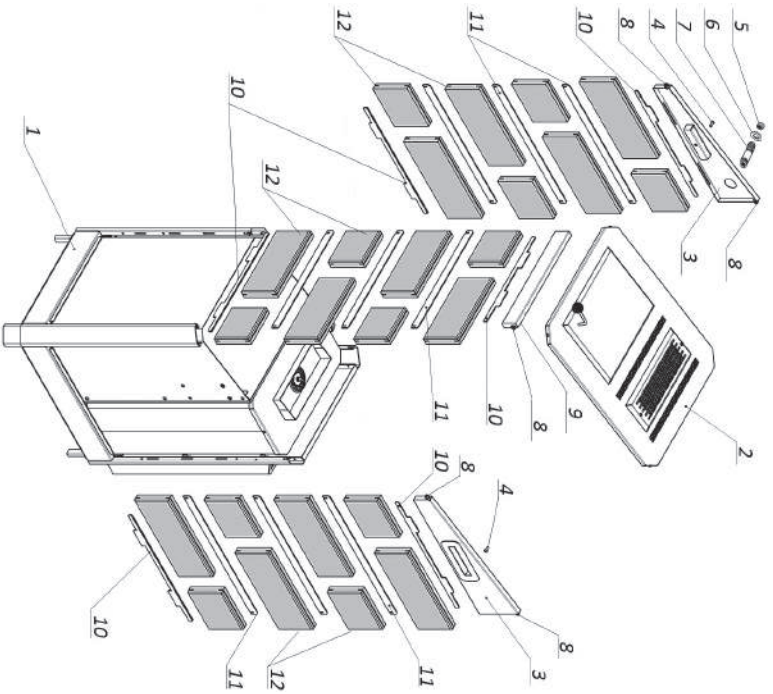
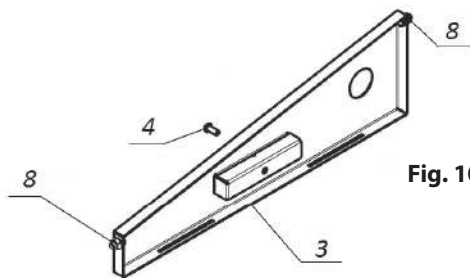

Fig. 9 Diagram of the stone facing assembly of the steam thermal electric heater PARZHAR-6.25 kW.
Fig. 10 Side panel of the stone-faced EH case
A diagram of the stone facing assembly is given in Fig. 9.
2.1.3.2 Unpack and sort stone tiles by their lengths (no. 12, Fig. 9) and metal inserts (no. 10 and 11, Fig. 9) for the front and side EH panels.
2.1.3.3 Remove the top cover (no. 2, Fig. 9). For this, loose 4 self-tapping screws on corner cover ends. Unscrew the plug (no. 5, Fig. 9) and the decorative nut (no. 6, Fig. 9), then unscrew the steam bleeding nipple (no. 7, Fig. 9). Remove screws from side handles (no. 4, Fig. 9, Fig. 10). Loose fastening nuts (no. 8, Fig. 9, Fig. 10) of the front (no. 9, Fig. 9) and side (no. 3 Fig. 9, Fig. 10) panels inside the corners of the EH case. Pull the side and front panels upwards to remove them.
2.1.3.4 Install metal inserts with protrusions (no. 10, Fig. 9) on the foundation plate (no. 1, Fig. 9) and align protruding parts of the inserts with plate cutouts. Install first-row stone tiles (no. 12, Fig. 9) on all three sides by putting on tile cutouts on the inserts (no. 10, Fig. 9). Put metal inserts (no. 11, Fig. 9) into the cutouts of the installed tiles and install the second row of the tiles. The following rows of the stone tiles are installed in a similar manner. After the installation of the last (top) row of the tiles, metal inserts with protrusions (no. 10, Fig. 9) are put into their cutouts. Layouts of the installation of decorative stone tiles are shown in Fig. 11.
2.1.3.5 Install the side (no. 3, Fig. 9, Fig. 10) and front (no. 9, Fig. 9) panels and align protrusions of metal inserts (no. 10, Fig. 9) with cutouts in lower panel planes. Tighten the fastening nuts (no. 8, Fig. 9, Fig. 10). Tighten the screws (no. 4, Fig. 9, Fig. 10) into the side panel handles.
2.1.3.6 Using s fluoroplastic tape, screw the steam bleeding nipple (no. 7, Fig. 9) into the steam generator. Put the decorative nut (no. 6, Fig. 9) on the nipple, then screw the plug (no. 5, Fig. 9).
2.1.3.7 install the top cover (no. 2, Fig. 9) and fasten it with self-tapping screws.